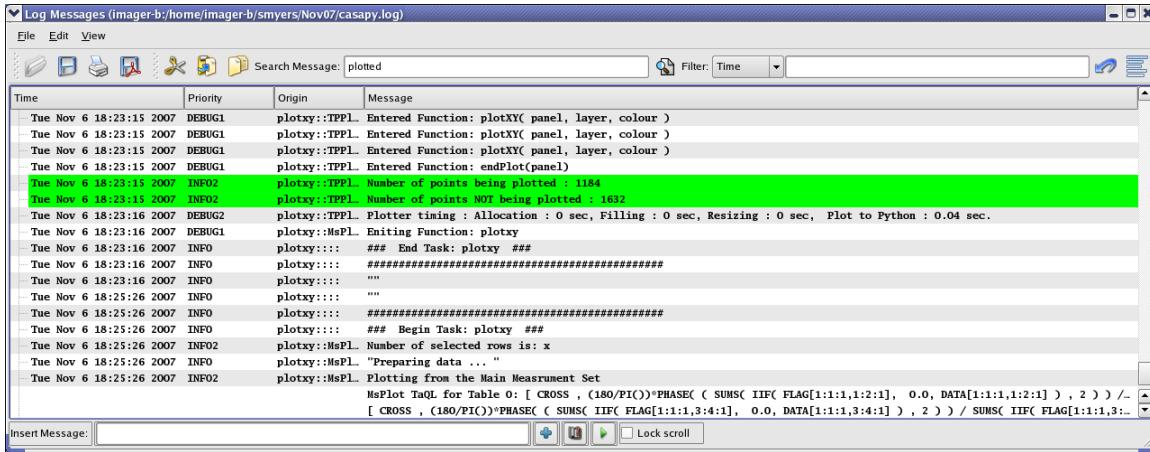

Figure 1.5: Using the Search facility in the casalogger. Here we have specified the string 'plotted' and it has highlighted all instances in green.
- **Search** — search messages by entering text in the Search window and clicking the search icon. The search currently just matches the exact text you type anywhere in the message. See Figure 1.5 for an example.